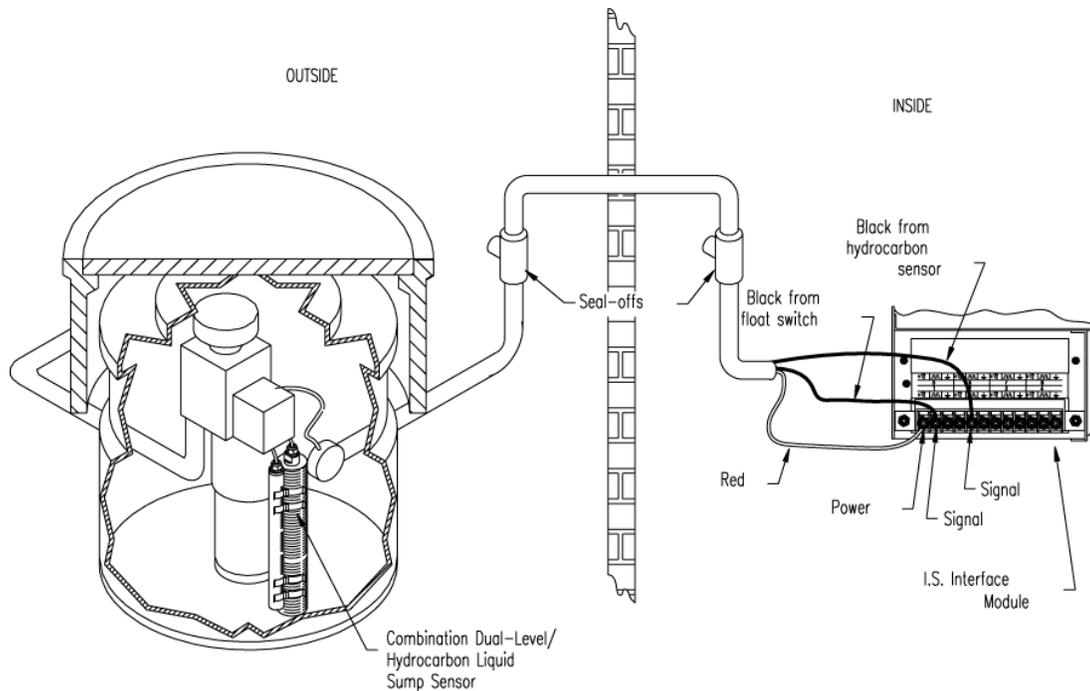

Figure 13-21 Combo Single-Level & Hydrocarbon Liquid Sensor Installation
- Review Figure 13-21 on page 70.